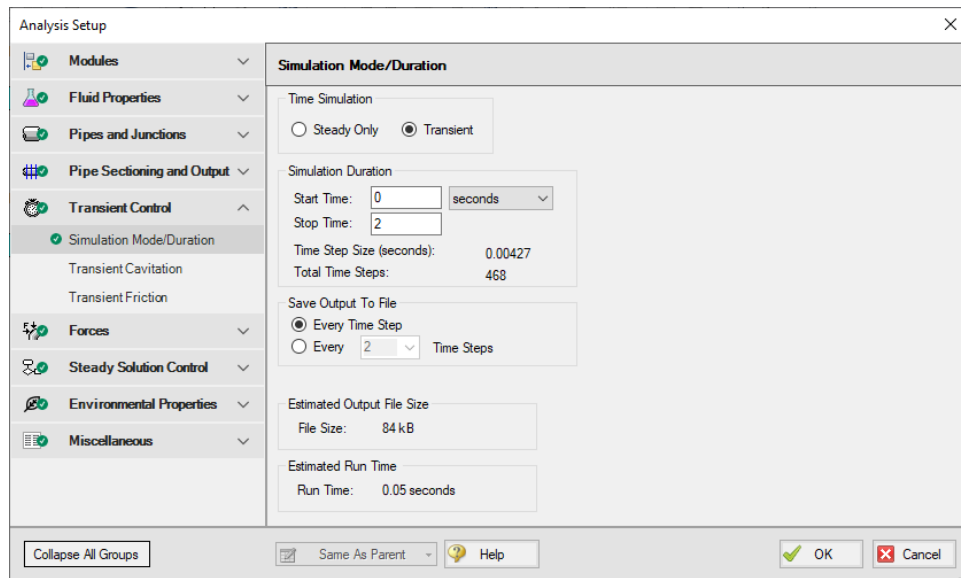

Figure 22: The Simulation Mode/Duration panel offers features to specify the time span for the transient and what output data is written
➤ **Open the Simulation Mode/Duration panel** in Analysis Setup (Figure 22). Zero (0) seconds should already be entered for Start Time. Enter two (2) for Stop Time.